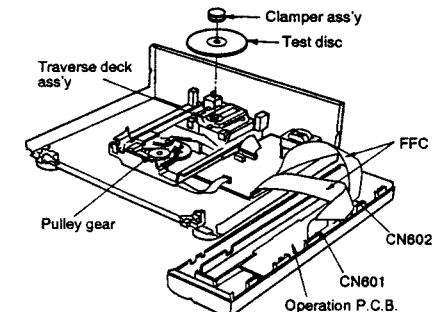

Fig. 2
7. Remove the 7 screws (①-⑦).
11. Connect the 2 FFC (CN601, CN602) as shown in Fig. 2.